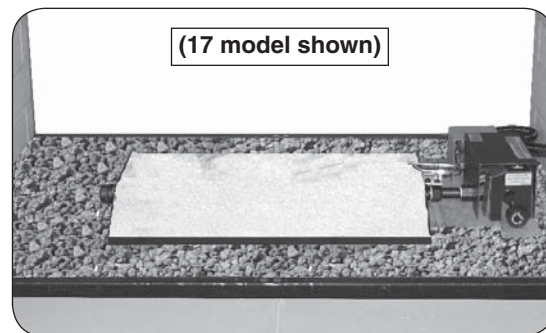

Fig. 21-1 Place sand/vermiculite
1. Fill the burner pan completely with the sand/vermiculite (see Fig. 21-1). **Avoid spilling the sand/vermiculite on the pilot assembly. DO NOT place sand/vermiculite on any other parts of the burner, valve, or heat shield.**